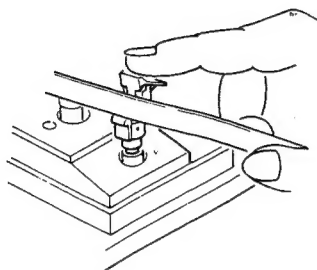

Fig. 5
1. Secure the tonearm on the rest with the clamp, and adjust the tonearm height to 5.5mm with the arm set screw. (Fig. 5, 6)